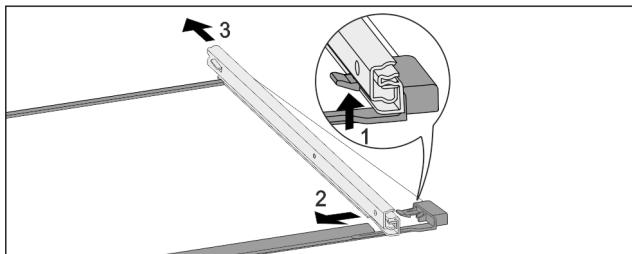

Fig. 173 Glass shelf with rails
- ▶ Push up front click-in hooks. Fig. 173 (1)
- ▶ Move the pull-out rails to the side Fig. 173 (2) and to the rear Fig. 173 (3).